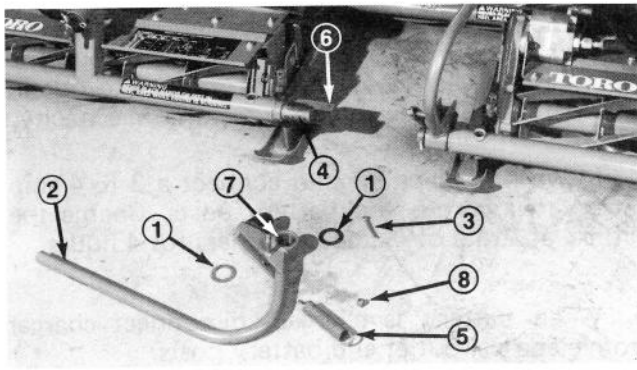

Figure 12
1. Install large thrust washer, tipper assembly, another washer and cotter pin on frame shaft (Fig. 12).
2. Insert spring end into rear hold in carrier frame plate and opposite spring end over stud on tipper (Fig. 12).
3. Secure spring on tipper stud with locknut (Fig. 12).